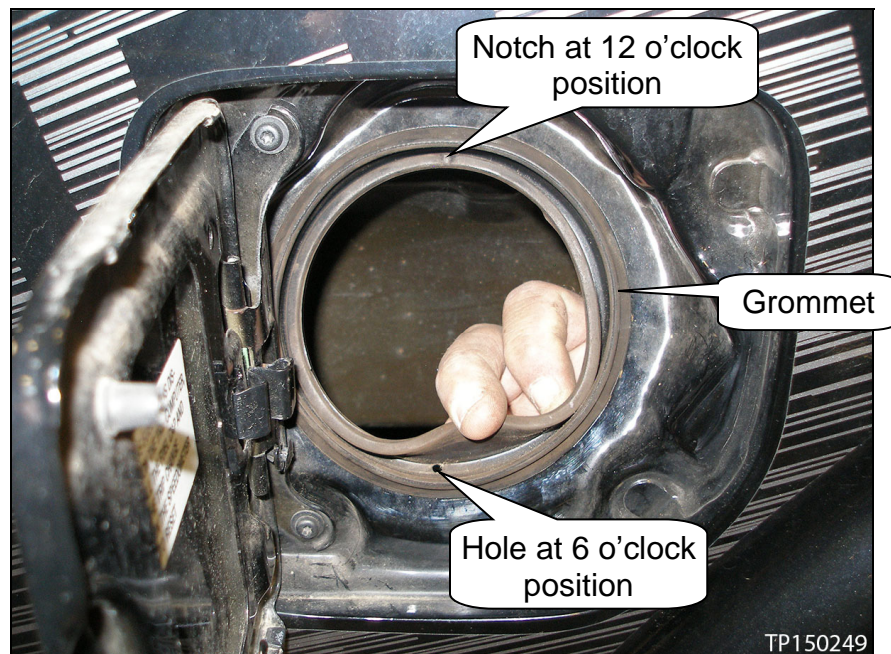

Figure 9
- Make sure the grommet is positioned as shown in Figure 9.